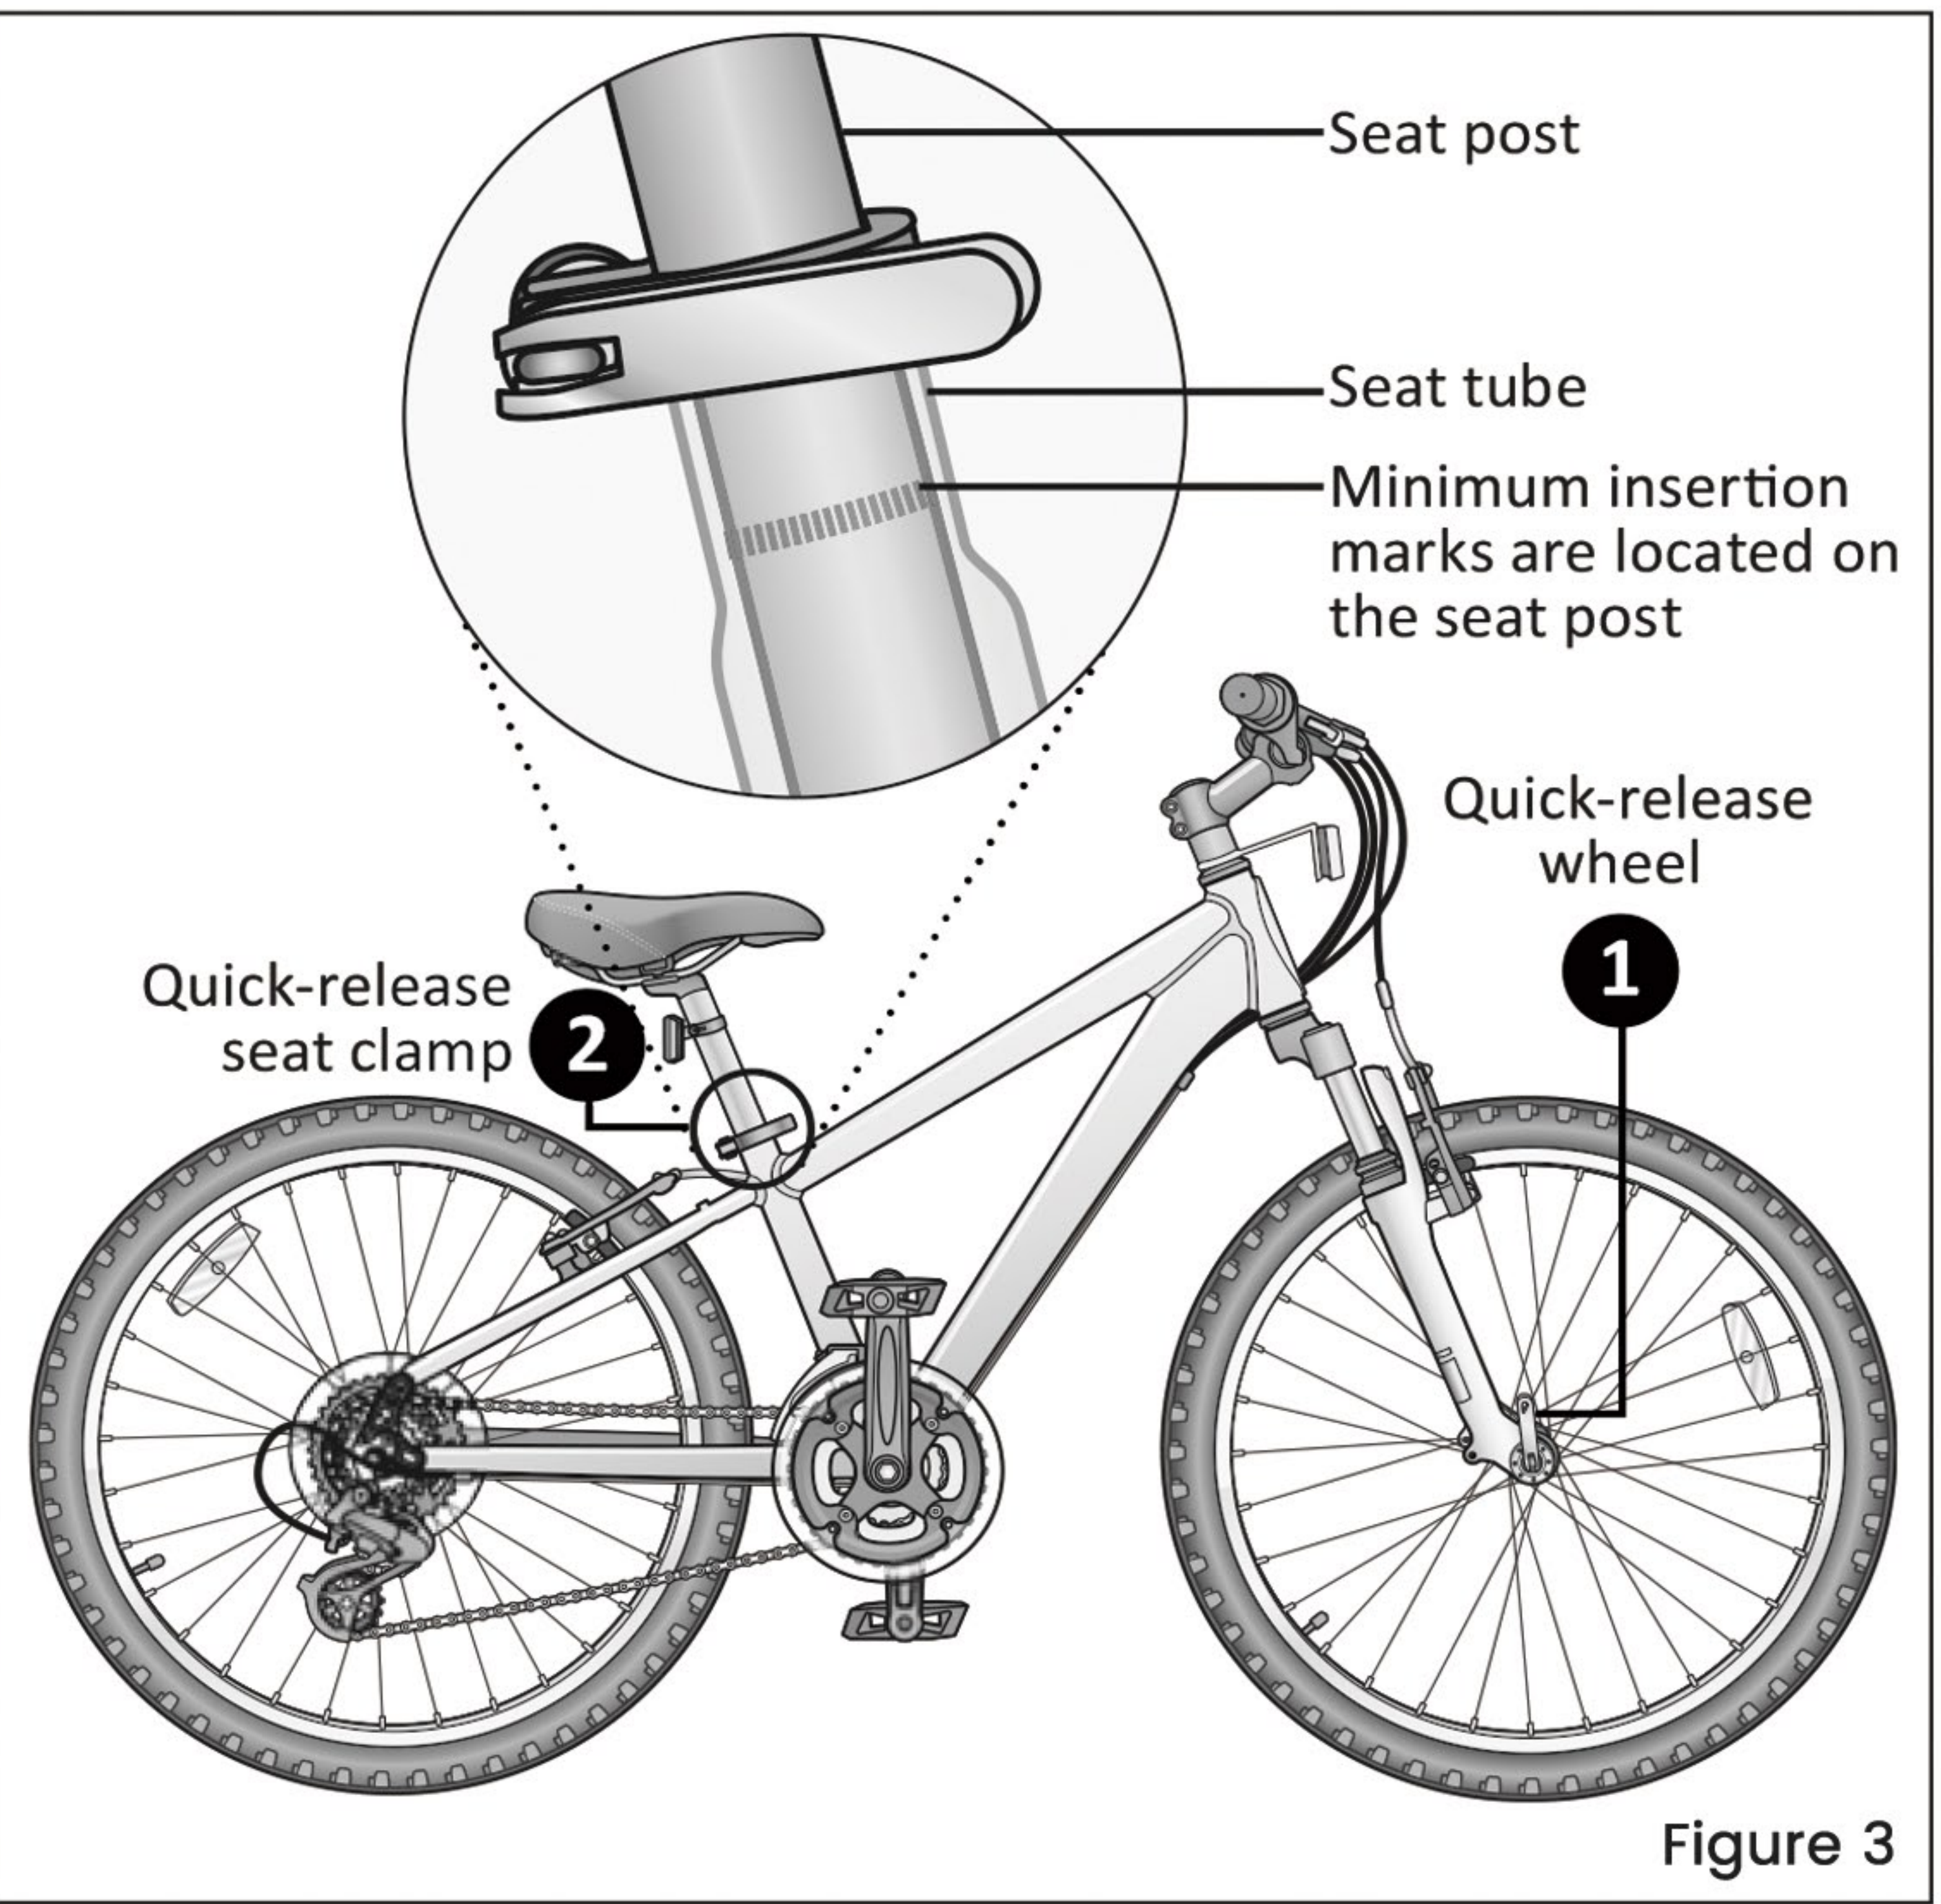

Figure 3
- 1 Some bicycles will come equipped with quick-release levers for the front wheel. The wheels must be securely locked. Ensure the wheel quick-release lever is firmly locked in place. Figure 3